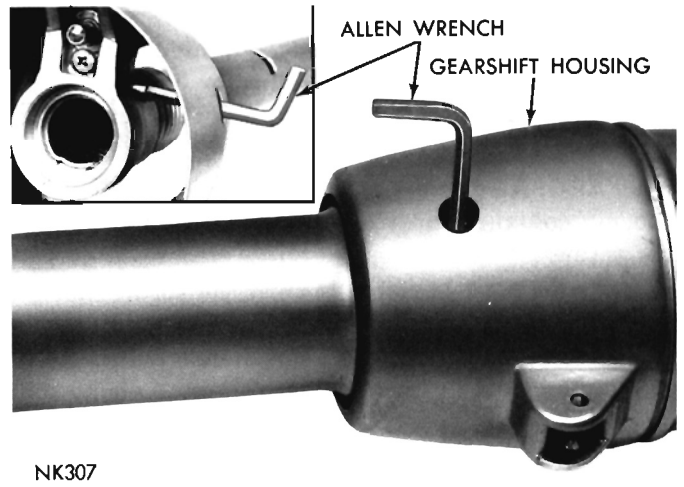

Fig. 12—Removing or Installing Tapered Lock Bolt
(8) Rotate the gearshift housing to align opening with the tapered lock bolt. Remove the lock bolt with an Allen wrench (Fig. 12). With lock bolt removed, carefully pull the gearshift tube assembly out of the column jacket.
(8) Rotate the gearshift housing to align it so the tapered lock bolt can be installed with an Allen wrench (Fig. 12). Tighten the lock bolt securely.